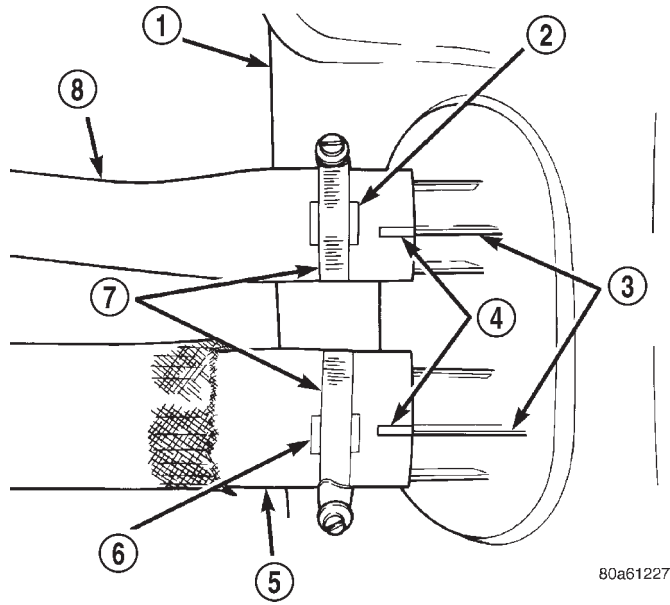

Fig. 37 Fuel Fill/Vent Hose Index Marks
(14) Continue lowering tank until clear of vehicle. Place tank on floor with left side (hose side) higher than right side.
(15) Drain tank by removing fuel fill hose at tank. Fuel fill hose is largest of 2 hoses (Fig. 37). Insert the
(1) If fuel pump module is being installed, refer to Fuel Pump Module Removal/Installation in this group for procedures.
(2) Install fuel fill/vent hoses to tank fittings. To prevent hose from kinking, rotate each hose until index mark on hose is aligned to index tang on fuel tank (Fig. 37).
(3) Install hose clamps to hoses. Position clamps between index marks on each hose (Fig. 37).
(4) Position fuel tank to hydraulic jack.
(5) Raise tank into position while guiding fuel fill and vent hoses into and through access hole in body.
(6) Continue raising tank until positioned to body.
(7) Attach two fuel tank mounting straps and mounting nuts. Tighten nuts to 10 N·m (90 in. lbs.) torque. Do not over tighten nuts.
(8) Install both fuel hoses to fuel fill tube. Tighten both retaining clamps.
(9) Position fuel hose shield to body. Install and tighten 4 mounting bolts.
(10) Connect fuel pump module pigtail harness electrical connector near front of tank.
(11) Connect fuel pump module supply line near front of tank. Refer to Quick-Connect Fittings for procedures.
(12) Connect EVAP hose near front of tank.
(13) Install exhaust tailpipe heat shield.